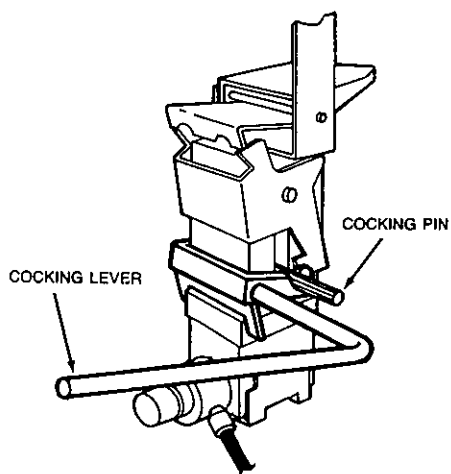

FIGURE 50
10. Insert cocking lever (Part No. 14995) on left side of regulated release mechanism with the movable flange resting securely against the corner of cartridge receiver and spring housing, with the notched lever portion engaging the cocking pin on both sides of the regulated release. See Figure 50.